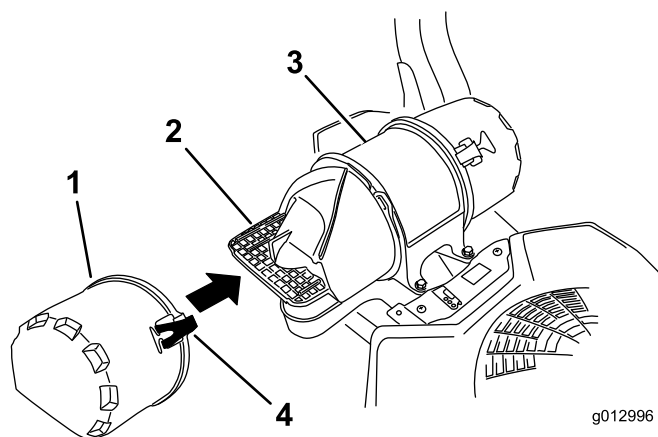

Figure 46
3. Release the latches on the air cleaner and pull the air inlet cover off the air cleaner body (Figure 46).
5. Install the air inlet cover and secure it with the latches (Figure 46).